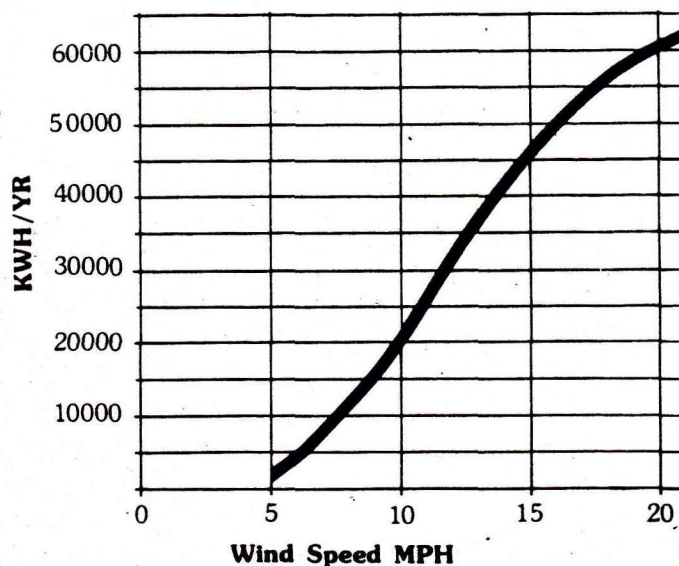

Figure 3. Annual energy output taken from brochure of Windworks 10kw.
(1) Some manufacturers included graphs of annual energy output versus average windspeed (Fig. 3). The manufacturer does not know the windspeed for your area, therefore they assumed a windspeed distribution and used their experimental (sometimes a theoretical) power curve to calculate energy output. From Table 1, a rough estimate of your average windspeed at your location will allow you to estimate energy output for that WECS. From Fig. 3, the Windworks unit should produce around 22,000 kwh/yr near Waco (average windspeed = 10.4mph).